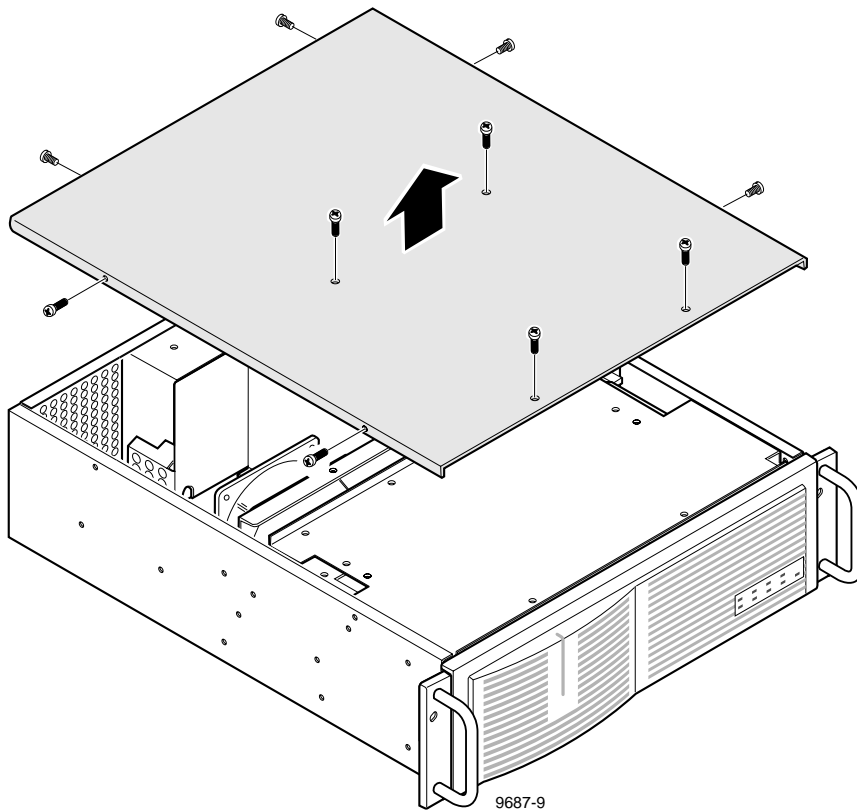

Figure 3-8. PDX208 Top Cover Removal
Figure 3-8 shows removal of the top cover, which must be removed to access the interior for removal of other parts. To remove the top cover, refer to Figure 3-8 and:
2. Remove the top cover (Figure 3-8).
6. Replace the top cover (Figure 3-8).
4. Replace the top cover (Figure 3-8).
5. Replace the top cover (Figure 3-8).
5. Replace the top cover (Figure 3-8) and reinstall the PDX208 into the rack.